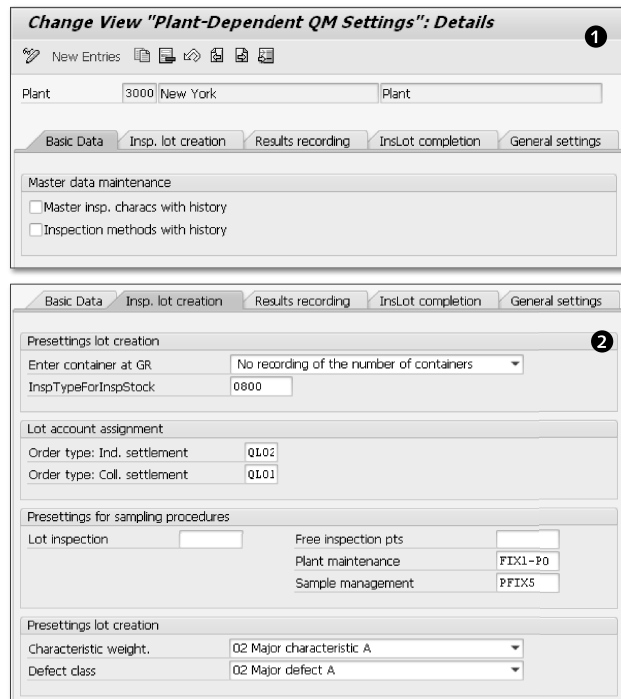
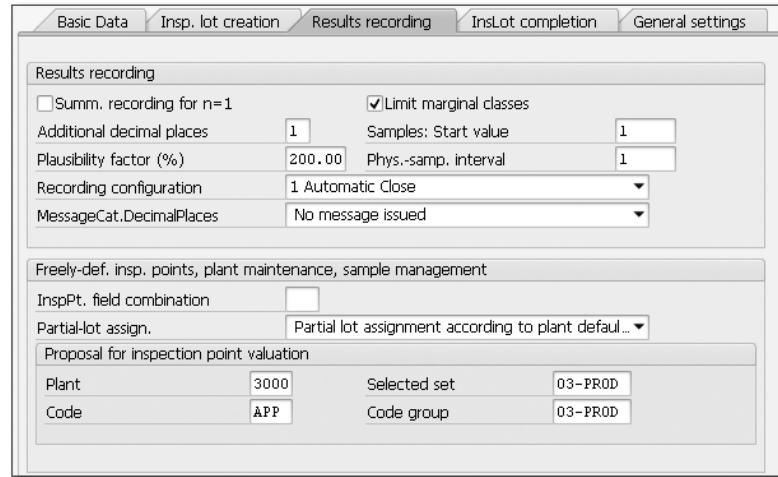

Figure 3.52 Settings at the Plant Level
Figure 3.53 Results Recording in Plant Settings
With these two checkboxes selected (see Figure 3.52 ❶), when you create or change a master inspection characteristics and inspection methods, the system automatically assigns versions to them. Doing so preserves necessary historical information about the characteristic or inspection method for record keeping.
Table 3.6 explains the fields of Figure 3.52 ②.
Choose the RESULTS RECORDING tab in of Figure 3.52 ② to go to Figure 3.53. Table 3.7 explains the fields of Figure 3.53.
Choose the INSPECTION LOT COMPLETION tab in Figure 3.53.